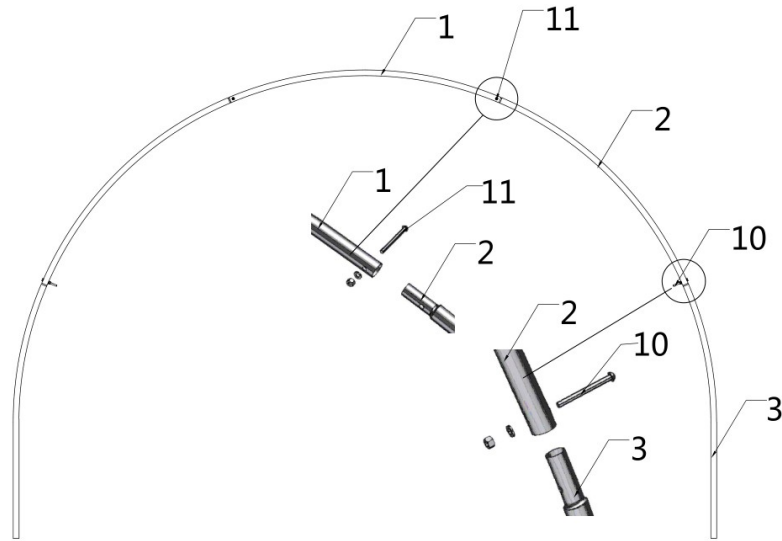

Figure 2
- Parts used to install (8) middle trusses in this step (refer to figure 2).